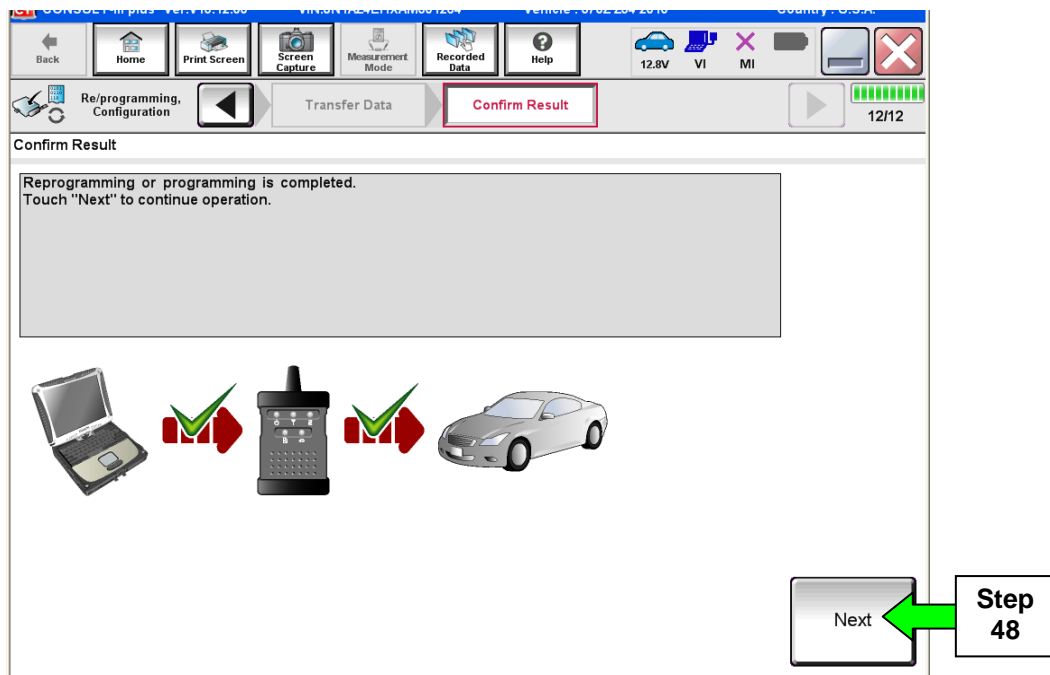

Figure 16
28. When the screen in Figure 16 below displays, software download is complete.
**NOTE:** If the screen in Figure 16 does not display (software download does not complete), refer to the information on the next page.